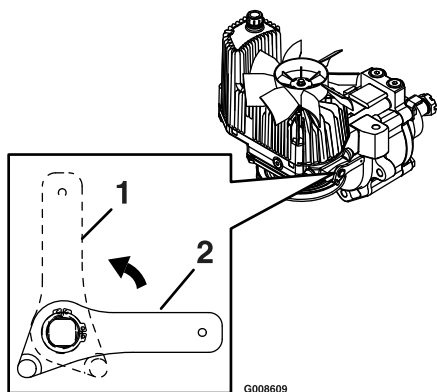

Figure 13
machine has to be pushed by hand, the valves must be in the “released” position (see Figure 13).
To release the drive system (see item 1 in Figure 13), rotate the handle 1/4 turn to the vertical position until it hits against the stop.
To reset the drive system (see item 2 in Figure 13), rotate the handle 1/4 turn to the horizontal position until it hits against the stop.